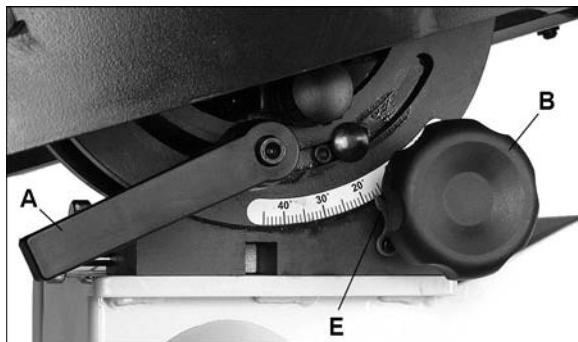

Figure 15
Refer to Figure 15.
6. Tighten lock nut (D) to secure table stop in position.
7. Tighten lock handle (A, Figure 15).
8. Check that scale pointer (E, Figure 15) is at zero. If necessary, loosen screw on pointer and shift pointer to zero. Re-tighten screw.